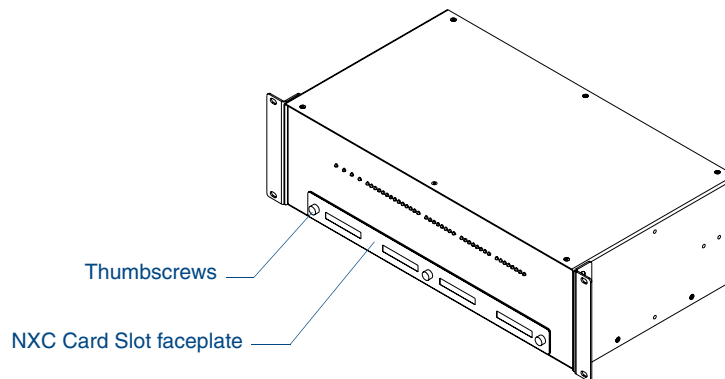

FIG. 1 NI-4000 front faceplate
2. Remove the three screws by turning them in a counter-clockwise direction and then remove the faceplate (FIG. 1).
3. Remove the faceplate from the front plate (FIG. 1 on page 15).